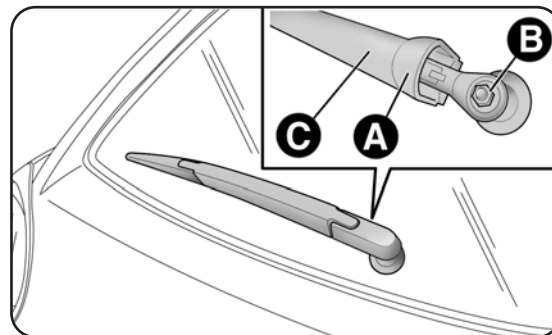

fig. 6
- lift cover A-fig. 6, undo nut B and remove arm C;